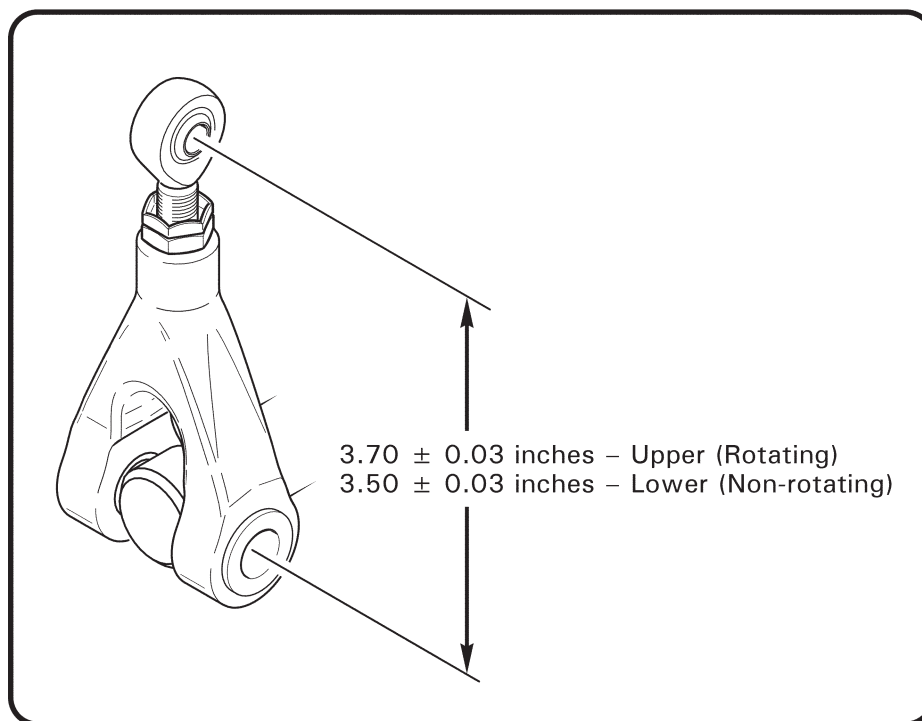

FIGURE 10-3 A205 (-9 SHOWN) DIMENSIONS FOR SWASHPLATE SCISSORS
2. Verify A205 forks at swashplate are set to proper length per Figure 10-3. Lower fork assembly must be  $3.50 \pm 0.03$  inches center-to-center and upper fork assembly must be  $3.70 \pm 0.03$  inches center-to-center.